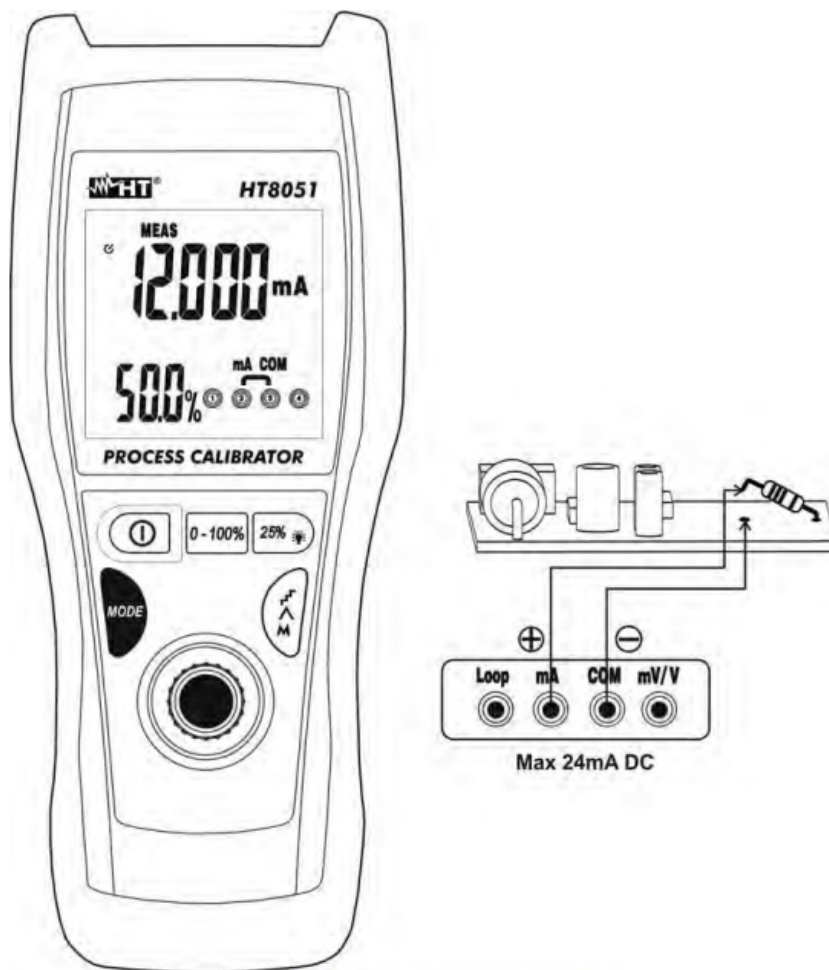

Fig. 5: DC current measurement
4. Connect the green lead and the black lead in series to the circuit whose current you want to measure, respecting polarity and current direction (see Fig. 5)
6. The message "-OL-" indicates that the current being measured exceeds the maximum value measurable by the instrument. The instrument do not perform current measurements with opposite polarity respect to the connection in Fig. 5. The value "0.000" is shown at display.